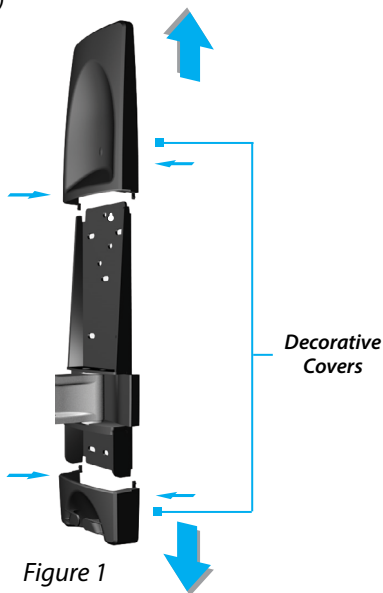

Figure 1
- Squeeze both sides of the bottom of the upper **Decorative Cover** and, while still squeezing the sides, lift up to remove. (Figure 1)
- Squeeze both sides of the top of the lower **Decorative Cover** and, while still squeezing the sides, push down to remove. (Figure 1)